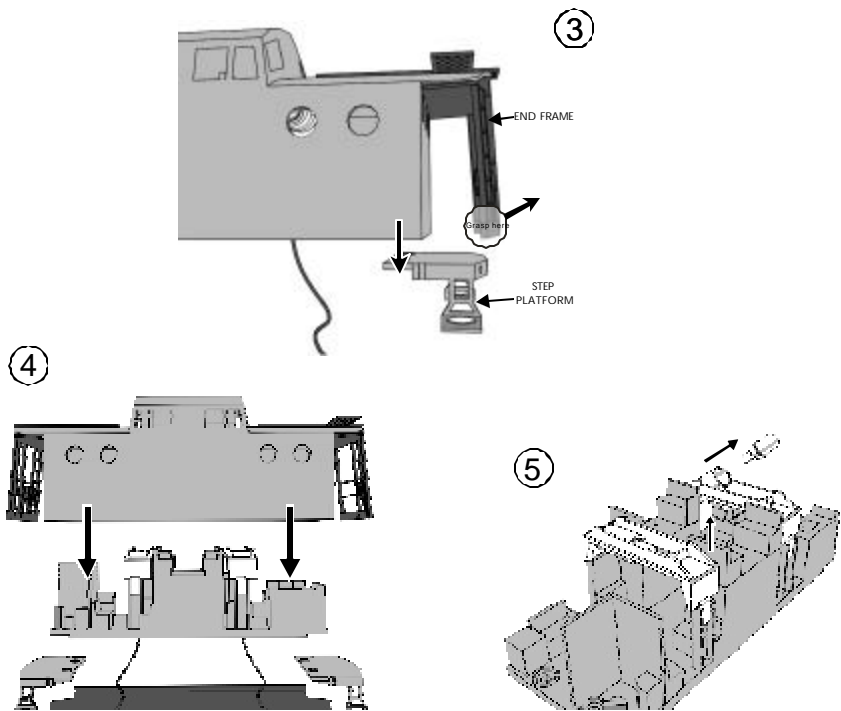

Figure 14-3,4,5. Next three Steps of Changing the Caboose Lights
3. To be able to separate the interior from the shell you need to remove the step platform from both ends. In order to do this you need to loosen the end frames from the step platform. You must do this carefully so that you don't break them. Grasp the end frame by the bottom and pivot outwards 5°. You can then remove the step platforms (figure 14-3).